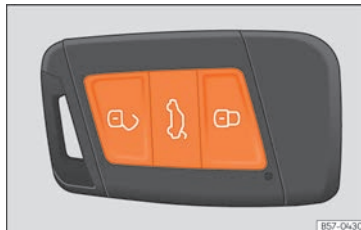

Fig. 53 Remote control key: keys.
- Lock: press the  >>> **Fig. 53** button.